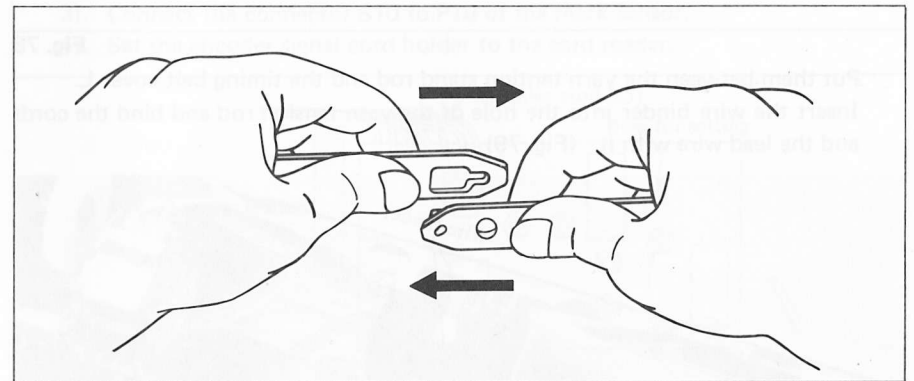

Fig. 83
- D. Remove the belt connecting pin from the hole in the other end of the timing belt and pull off the timing belt. (Fig. 83)